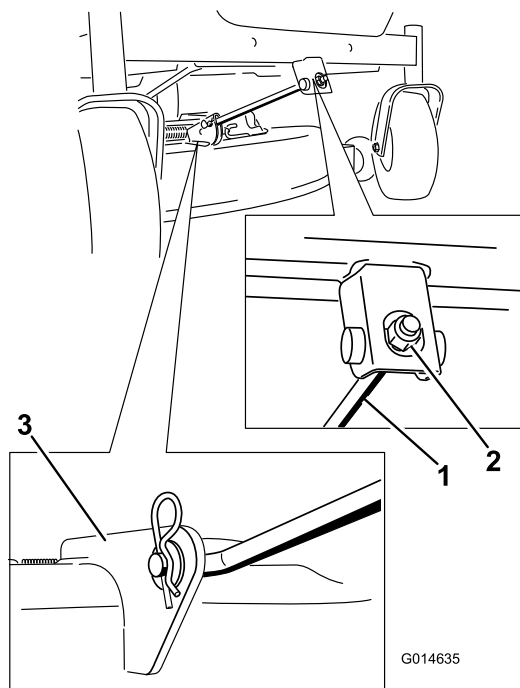

Figure 66
4. Remove the hairpin cotter from the front support rod, and remove the rod from the deck bracket (Figure 66).
6. Attach the front support rod to the mower deck with the clevis pin and hairpin cotter (Figure 66).